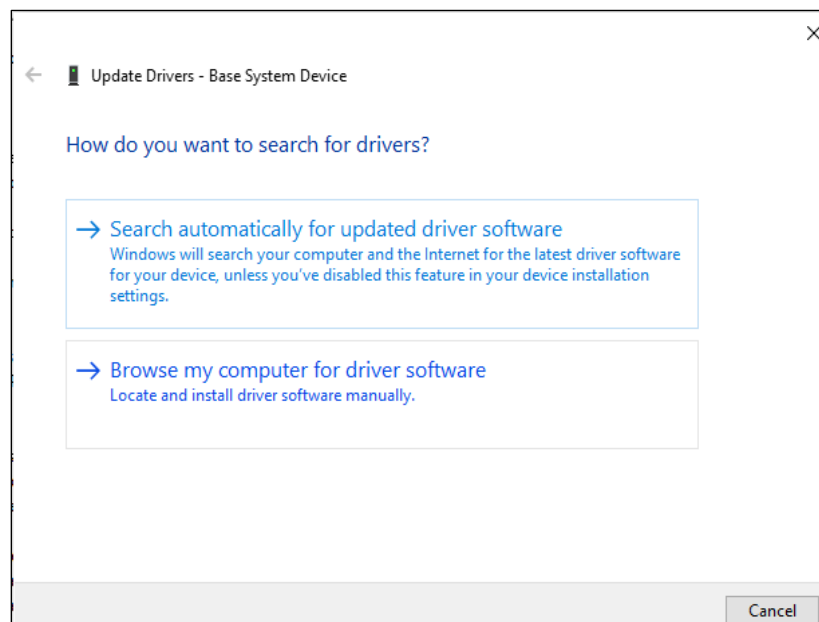

Figure 5.41. Update Driver Options
5. Select the **Browse my computer for driver software** option as shown in Figure 5.41.